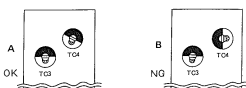

Fig. 12
- (2) With TC3 and TC4 in the final unit set to the positions shown in Fig. 12(A), fine adjust so that a maximum power is obtained.
**NOTE:** Care should be taken in adjustment because TC3 and TC4 are also tuned in the positions shown in Fig. 12(B).